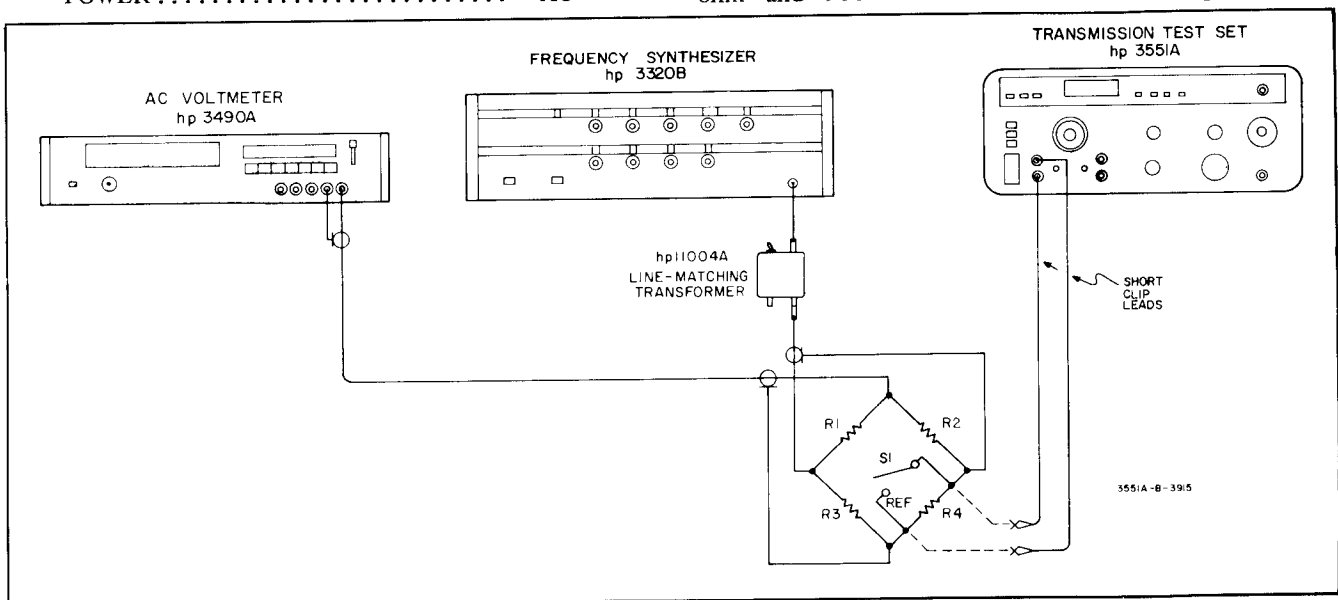

Figure 5-5. Return Loss Test Setup.
5-27. This performance test determines if the Test Set meets the Return Loss specification in Table 1-1. The specification is greater than 30 dB below reference from 500 Hz to 60 kHz for 135 ohm impedance and greater than 30 dB below the reference from 40 Hz to 20 kHz for the 600 ohm and 900 ohm impedance. To perform this test, it is necessary to construct a balanced bridge utilizing 0.1% resistors for each of the Test Set impedances. The bridge is shown in Figure 5-5. This performance test substitutes the impedance of the Test Set for a short in one leg of the
- a. Connect the equipment as shown in Figure 5-5 using 135 ohm resistors in the bridge.